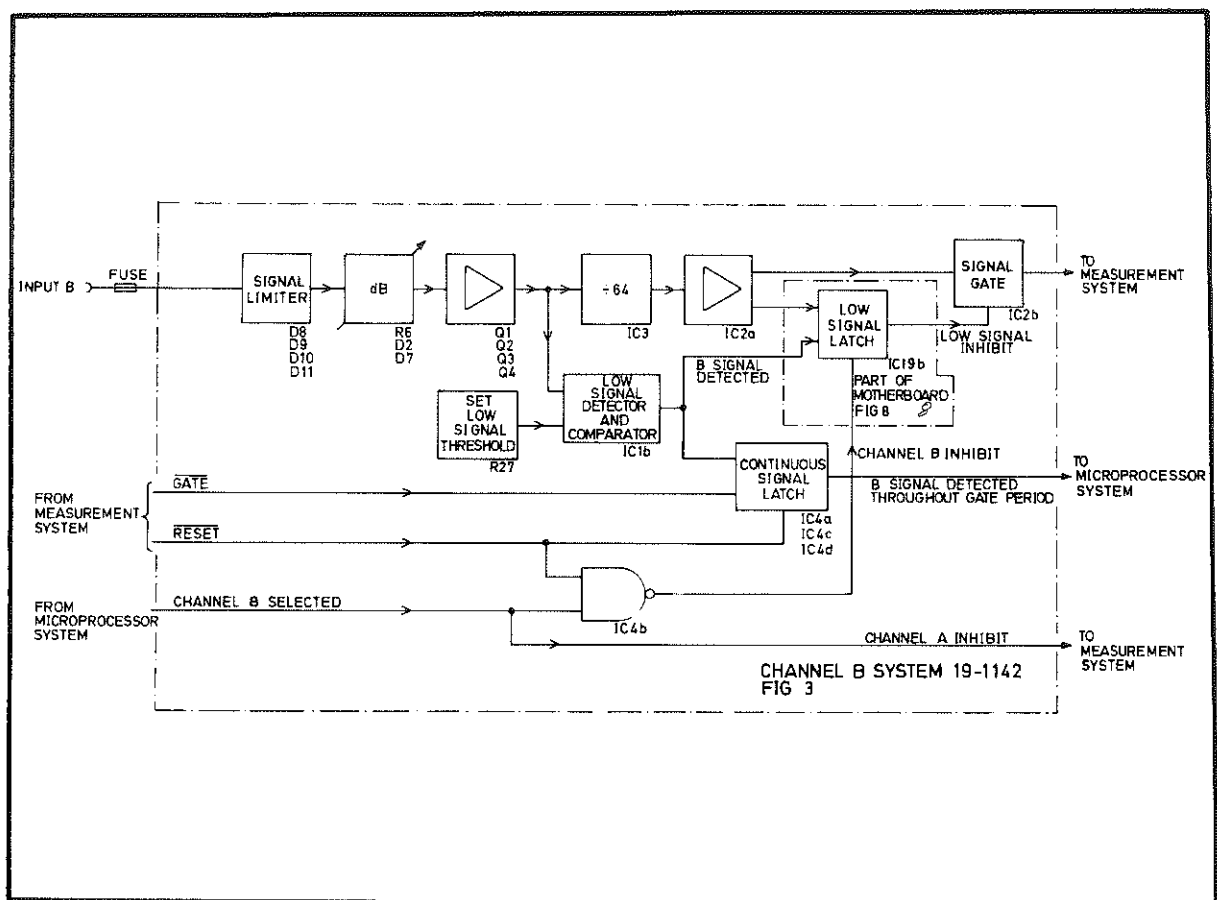

Fig 6.3 The 1998 Channel B System
- 23 A block diagram of the system is given in Fig 6.3. The system processes the signal applied at the B channel input and feeds it to the measurement system.